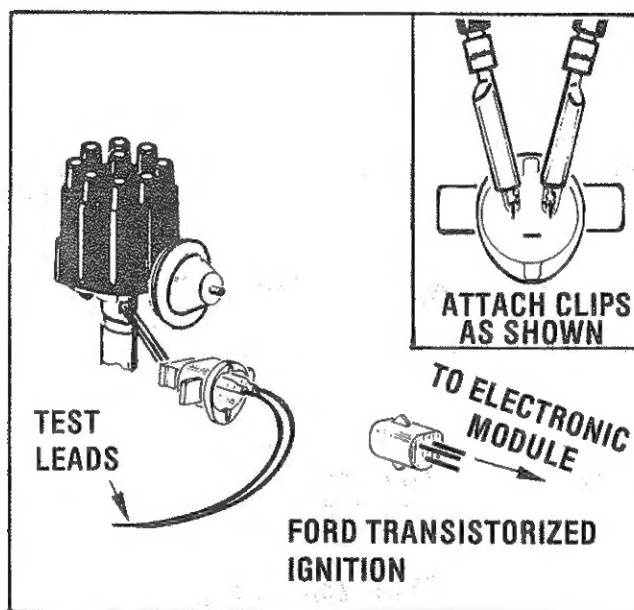

Figure 22. Ford Transistorized Ignition Test Hookup.
3. Disconnect three-wire connector between the distributor and electronic module. Connect the Red and Black test leads to the distributor side of the connector as shown in figure 22.